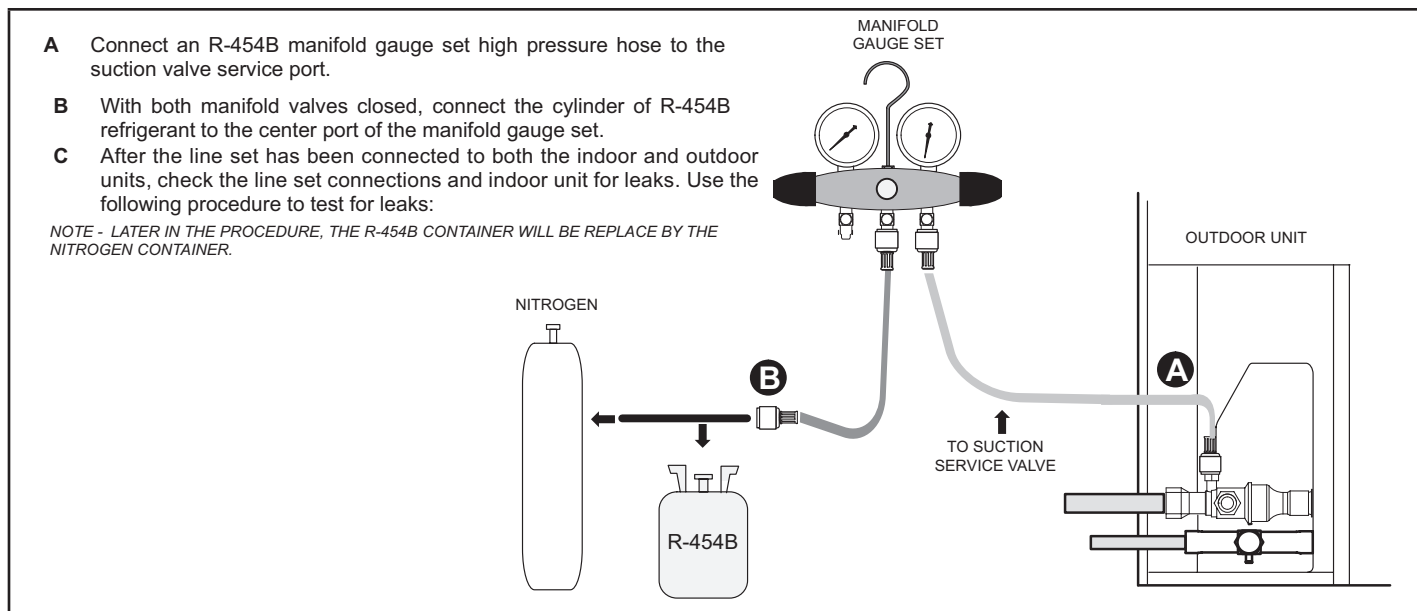

FIGURE 9
- 1 - Connect an R-454B manifold gauge set as illustrated in FIGURE 9.
- D - Replace the stem caps and secure finger tight, then tighten an additional one-sixth (1/6) of a turn as illustrated in FIGURE 9.